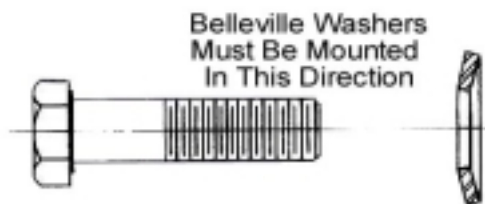
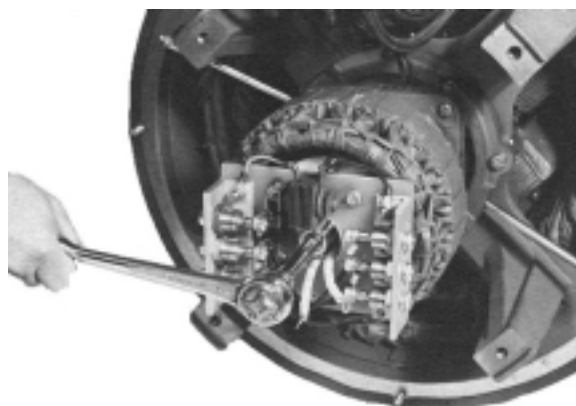
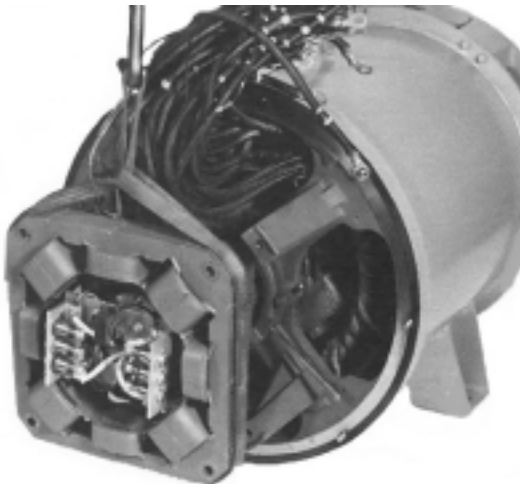

Figure 6-72
Figure 6-73
Figure 6-75
Insert the cap screw and Belleville washer (Figure 6-72.) through the mounting hole in the aluminum standoff plate and secure to the shaft (Figure 6-73). Tighten the cap screw until the armature seats on the shaft. Torque to 84 lb.-ft (114 N-M).
3. Position the exciter field leads at the left (9:o'clock) inboard position. Using a suitable lifting device, mount the exciter stator on the front e bracket mounting pads and align the mounting holes. (Figure 6-75.) Mount the cap screws with Belleville washers. (Figure 6-72.) Torque t cap screws to 60 ft-lb. (81 N-M). Route and secure the exciter stator leads away from any moving parts.